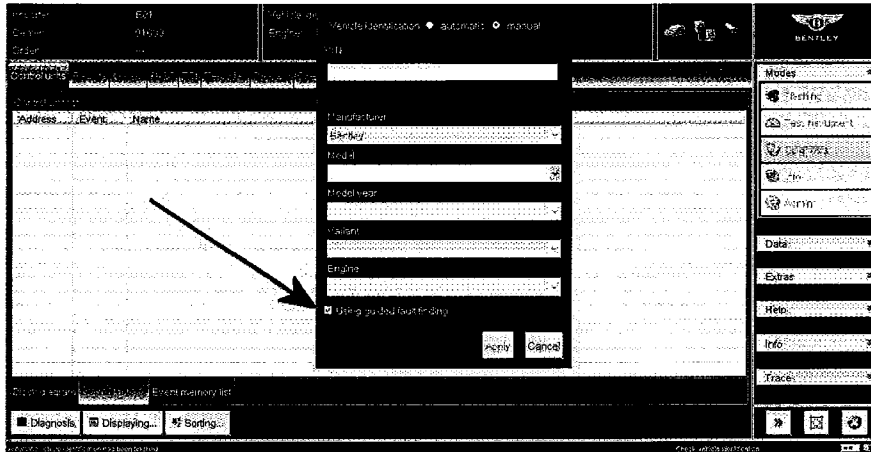

Figure 5
- Ensure the Using guided fault finding box is ticked (Figure 5) - follow all on screen prompts and allow the guided fault finding control module sweep to complete